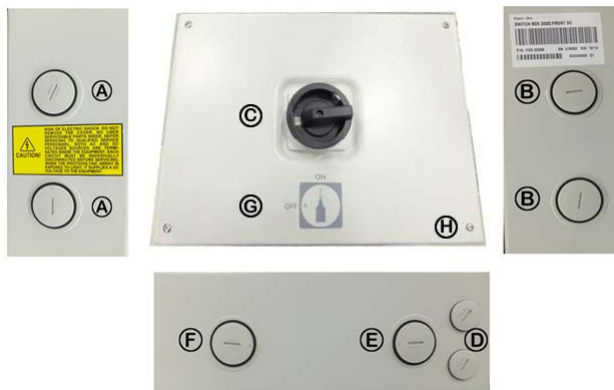

Figure 3-3: DC switchbox with front switch
- Refer to Figure 3-3 and Figure 3-4 to locate the designated entry locations for the conduits from the DC array and to the AC grid. Make sure the appropriate knockouts are used in order to maintain required spacing between wiring groups.
AC grid wiring is connected through the inverter switchbox. Run an approved raceway between inverter and external AC disconnect switch. Make conduit entry through openings (**B** or **E**) shown in Figure 3-3 and Figure 3-4.